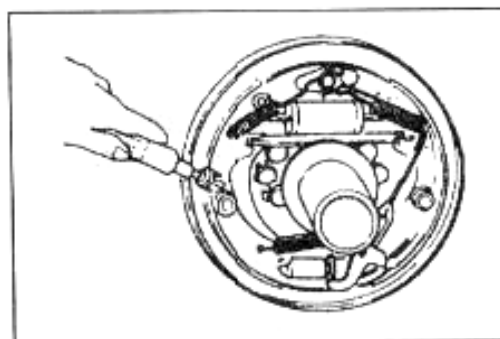

Fig 6-9
(3) Remove the other three fixed springs (Fig 6-9)